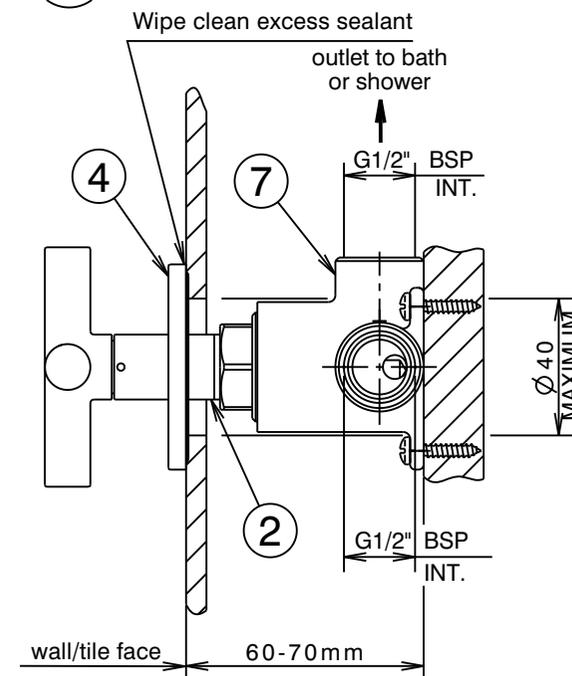

Fig. 1
Installation (Fig. 1 & 2)
Rotate the cover plate (4) to align the H & C markings, then push the cover plate (4) along the sleeve (2) until it firmly contacts the wall/tile face. Wipe/clean any excess sealant from the chrome surfaces & the wall/tile face (Fig.1).